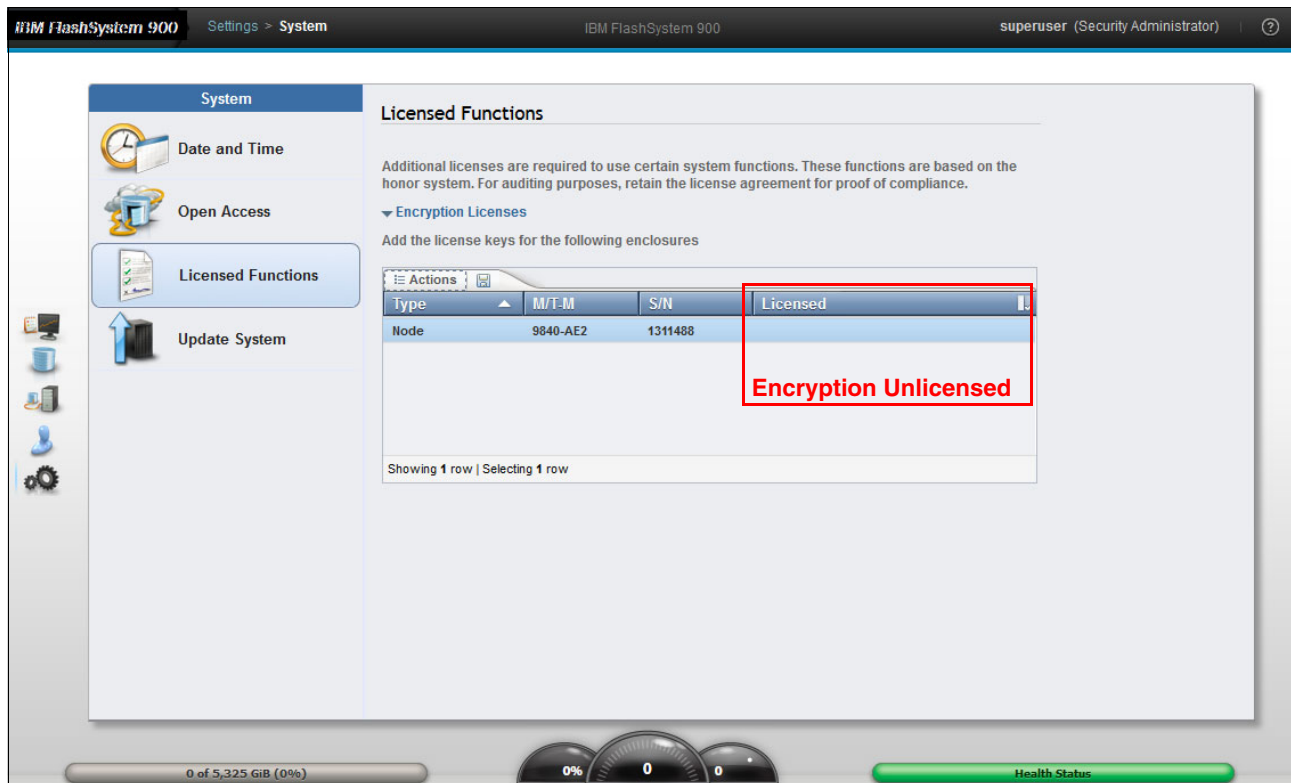

Figure 7-32 Encryption license not enabled
1. In the GUI, click **Settings** → **System** → **Licensed Functions** (Figure 7-32).